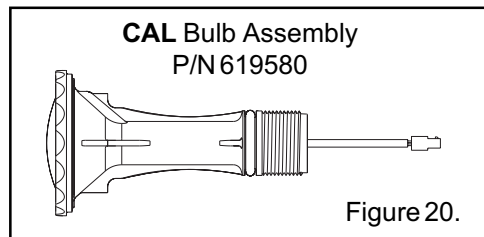

Figure 20.
1. When replacing the bulb assembly, make sure to use the correct bulb assembly unit for CAL light, see Figure 20.
18. Connect the wire connectors from the bulb assembly to the wire connectors attached to the snap-on cord cap. Make sure to use the correct bulb assembly unit for a CAL light, see Figure 20. *The wrong bulb assembly will permanently damage light.*